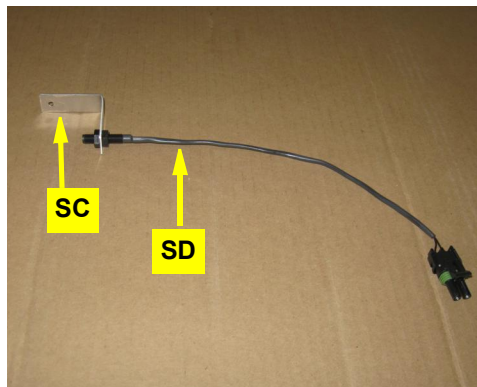

Figure 1c: Sensor installed in sensor bracket
- c. Connect sensor SD to bracket SC (Figure 1c).